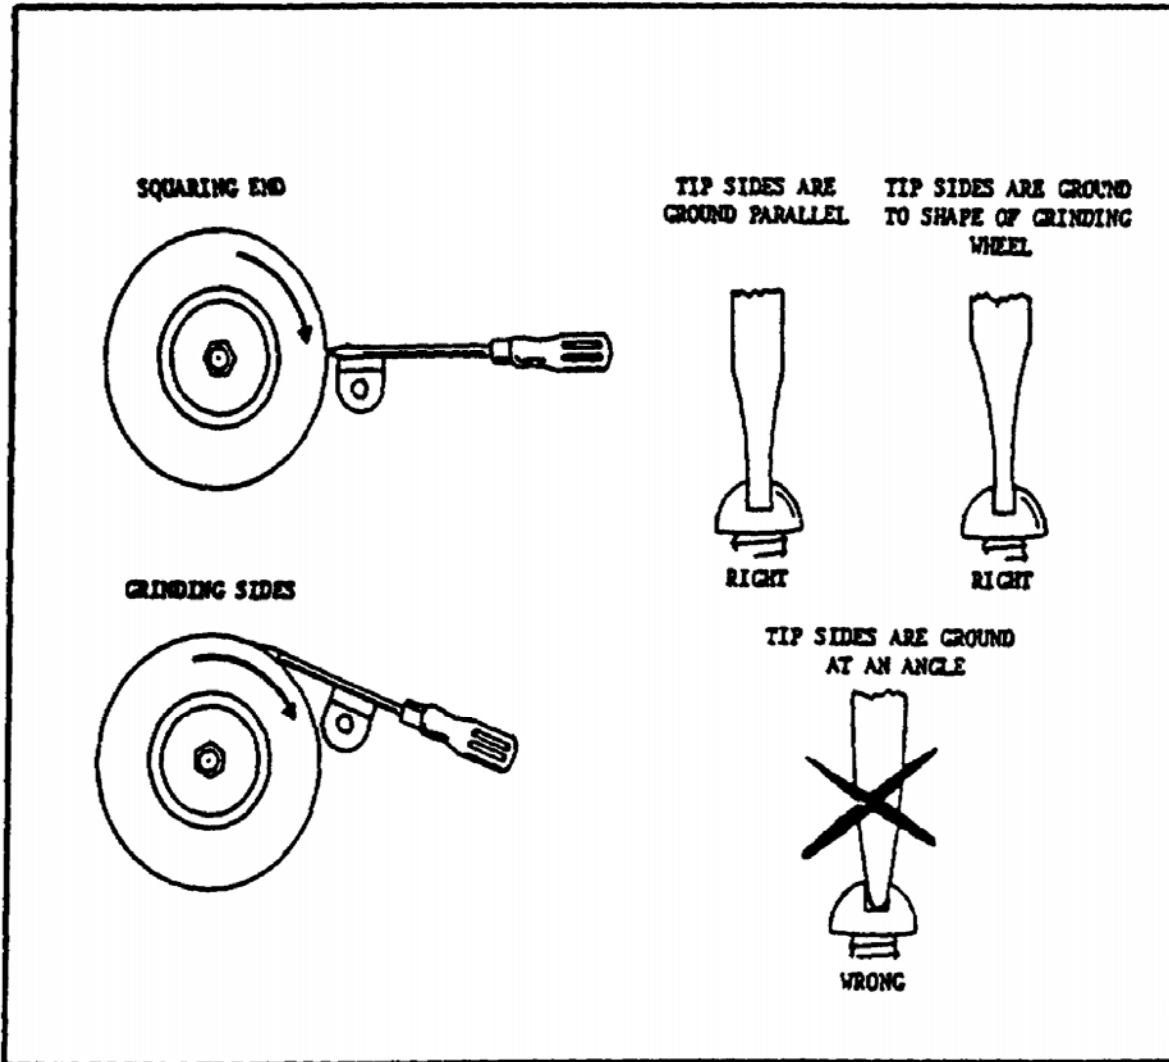

FIGURE 14. GRINDING SCREWDRIVER BLADE TIP.
(1) *Dressing and Shaping.* When a screwdriver becomes nicked, or the edges become rounded, or when other damage occurs so that it does not fit a screw slot, it must be reground or filed. The sides must be parallel to keep the tool from lifting from the screw slot (figure 14) and the tip must be square, at right angles to the sides and to the blade. If using a file, place the screwdriver in a vise.